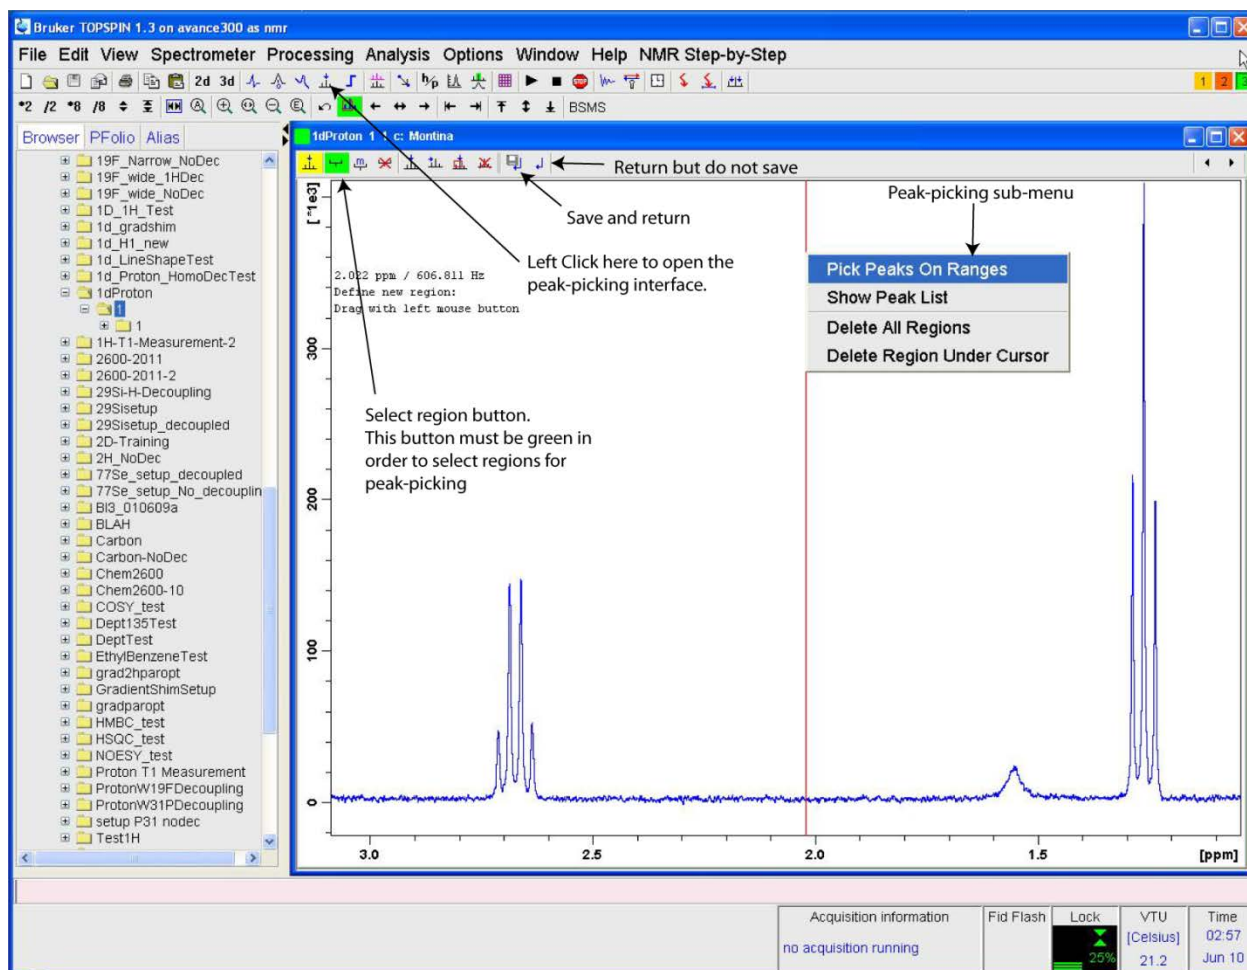

Figure 25 Topspin peak-picking interface.
(19) The spectrum is now ready to be peak-picked. The peak-picking interface can be brought up by left clicking on “Peak Pick” in the NMR step-by-step menu or on the icon indicated in Figure 25. The select region button (indicated below) must be highlighted green in order to select the peaks of interest. Left clicking and holding down the mouse button allows the user to drag a green box over the peaks of interest. This box must be created over the top of the peaks for them to be picked properly. A user can right click anywhere on the spectrum to open the peak-picking sub-menu. This menu will allow the user to delete all regions or delete the region under the location that they right clicked. When all peak-picking is complete the user should left click on the save and return icon.